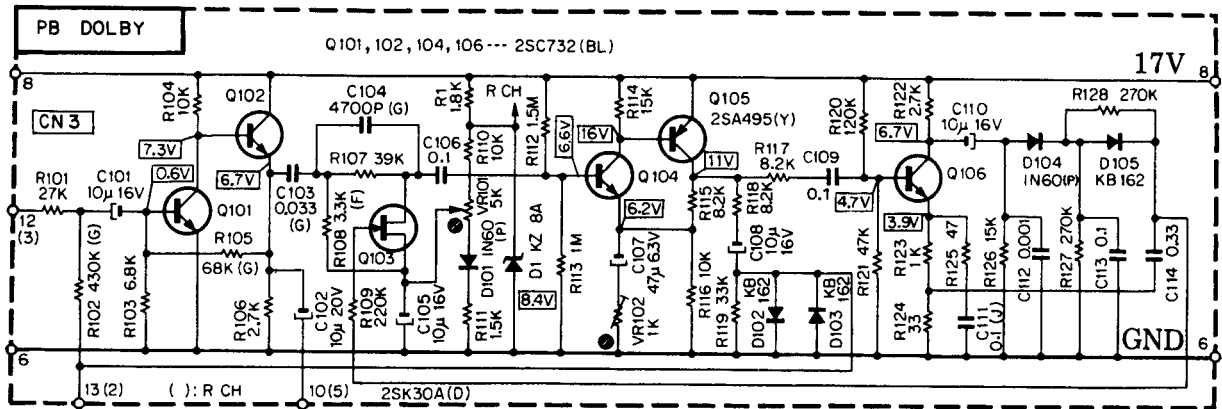

Fig. 2.9 Playback Dolby Processor Circuit Diagram
Fig. 2.9 shows a circuit diagram for a playback mode Dolby processor. The input for this circuit is applied through terminal 12(3) where the output of the playback head amplifier is connected. Terminal 10(5) is the output of the playback mode Dolby processor which becomes the input of the DNL circuit via the MONITOR switch. An input signal through terminal 13(2) is applied to the DOLBY NR switch. For DOLBY NR IN, this line is open and the signal is fed back to the base of Q101. For DOLBY NR OUT, this line is grounded and no signal is fed back.